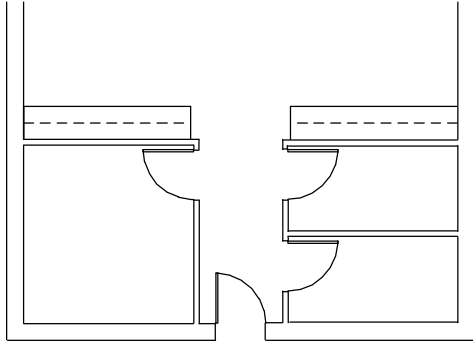

**Figure 3.39:** Locating the next door
10. Click the middle mouse button near the upper-left corner of Room A, shown in Figure 3.39. You are prompted to *Select hinge side of door.*